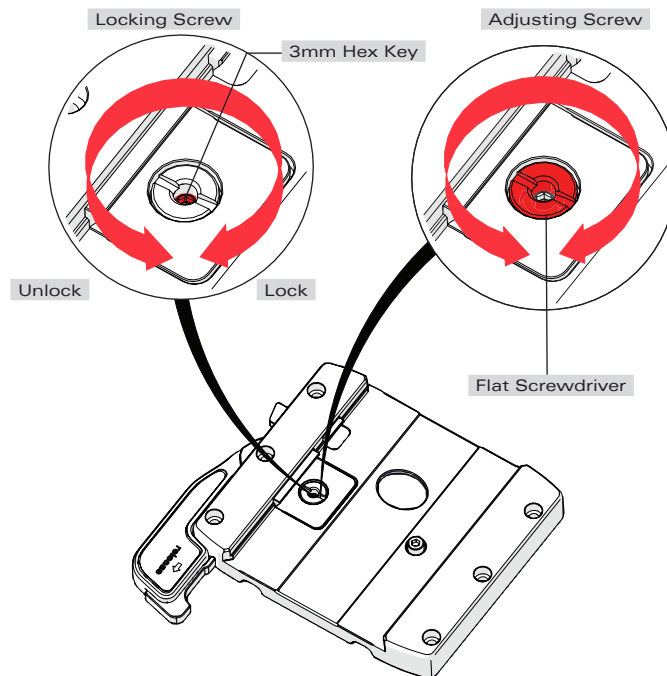

Fig. 8
- 4.4 Using a 3 mm Hex key unlock the LOCK SCREW (fig. 8), then using a broad flat screw driver turn the ADJUSTING SCREW (fig. 8) in the direction shown by 1/8 of a turn and re-check step 4.2, repeat 4.4 if necessary. When adjusted correctly, the SIDE LOAD LOCK LEVER will be smooth to operate and require modest effort to lock the CAMERA PLATE (fig. 9).